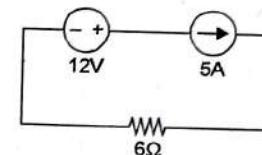

Fig. 1
Circuit shown in Fig. 1 contains ideal sources. Current flowing through 6 ohm resistor is- (A) 2A (B) 5A (C) 7A (D) 3A